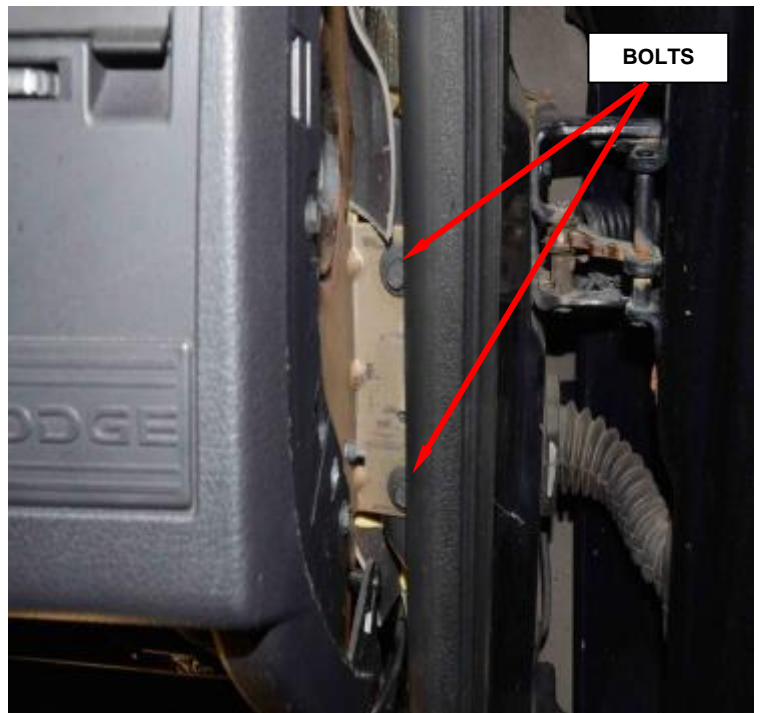

Figure 85 - Right Side Support Bolts
32. Remove the right side support bolts and with the help of another person, remove the instrument panel assembly from the vehicle and place on a soft clean surface (Figure 85).